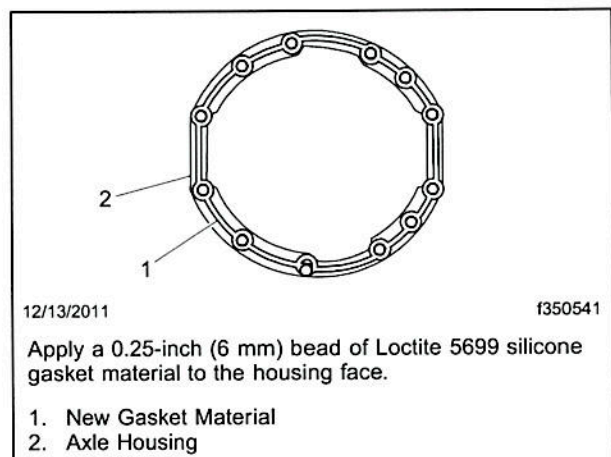

Fig. 6, New Sealant on Housing
7. Apply a 1/4-inch (6 mm) bead of Loctite 5699 silicone gasket material to the housing face. Do not use ThreeBond 1216E silicone products. See Fig. 6.